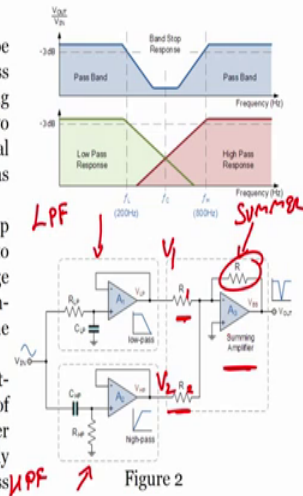

Figure 2
- The transformation of this filter characteristic can be easily implemented using a single low pass and high pass filter circuits isolated from each other by non-inverting voltage follower, ($A_v = 1$). The output from these two filter circuits is then summed using a third operational amplifier connected as a voltage summer (adder) as shown in Figure 2